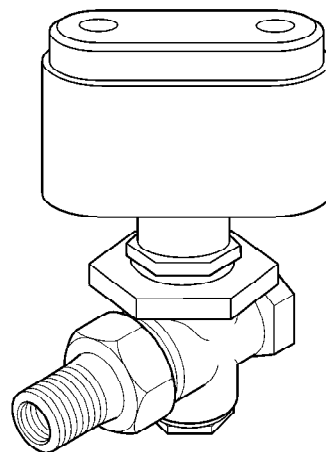

Figure-8 MK-2690 Actuator Mounted on Valve.
11. Install the actuator onto the valve by screwing the actuator base onto the mounting nut (Figure-8). The actuator may be rotated as desired to facilitate making the pneumatic connection.